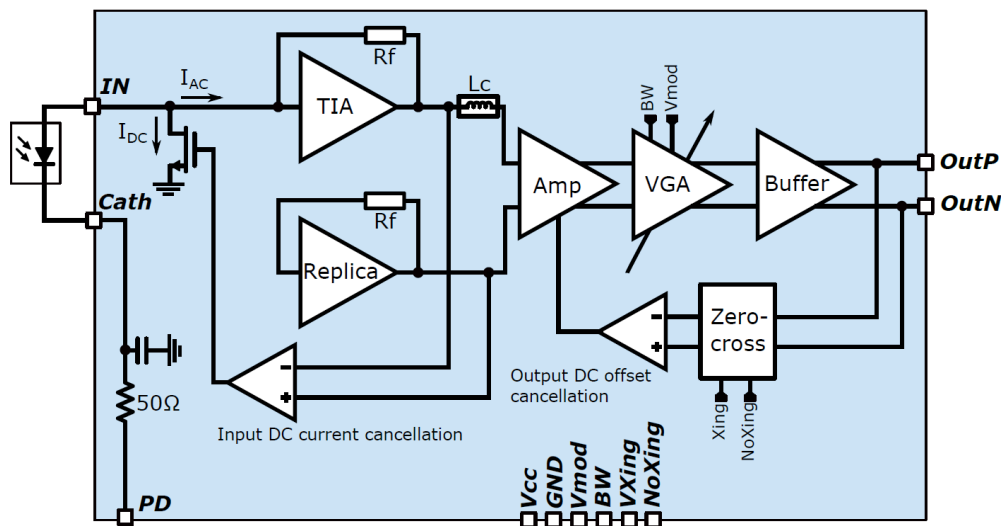

Figure 1. Simplified block diagram of the IC
The block diagram of the T56-250 is shown in Figure 1. It consists of four stages: an input transimpedance stage (TIA), a post-amplifier a variable gain amplifier (VGA) and a 50Ω output buffer. Series peaking with Lc between the first and second stage is used to increase the bandwidth. The IC has single-ended input (IN) and differential output (OutP OutN). A replica TIA provides the post-amplifier with DC-balanced inputs. A bias path for the photodiode is provided on-chip through the pin (PD) and cathode (Cath) that includes a low pass filter in order to damp eventual oscillations. The IC is operated from a single 3.3 V supply (VCC and GND) and is equipped with various analog control pins (Vmod, BW, NoXing, Vxing). Vmod defines the gain of the VGA. BW controls the frequency domain peaking. NoXing and VXing enable and control, respectively, the zero-crossing of the output signal.